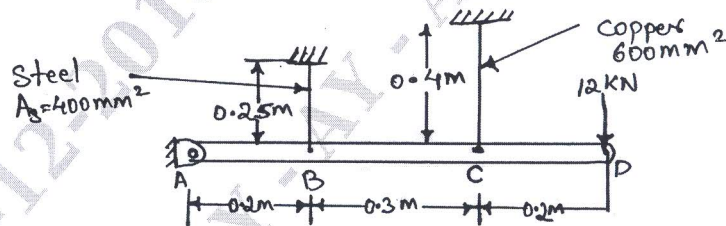

Fig Q9(a)
- 9 a. A rigid rod ABCD is supported by a hinge at 'A' and two wires at 'B' and 'C' as shown in Fig Q9(a). Determine the stress of the two wires. Take $E_s = 200\text{GPa}$ and $E_c = 120\text{GPa}$. Also find deflection at free end. (10 Marks)